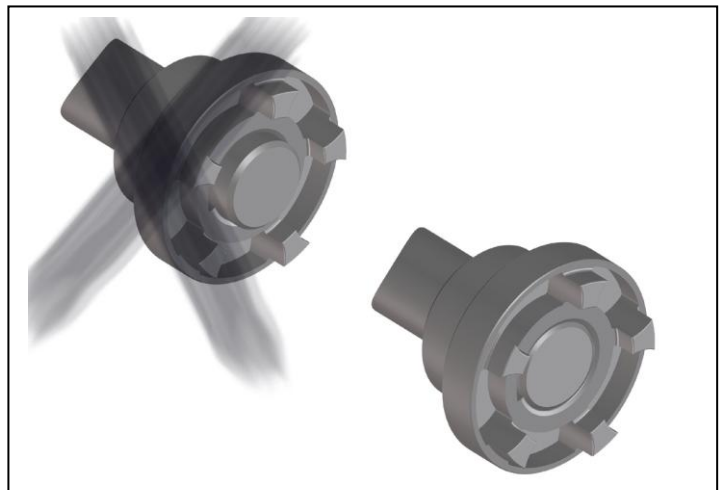

Fig. 4
- Mount the hub so that the shaft ends are flush with the interior borehole opening (Figure 4). Pay attention to possible differing agreements!